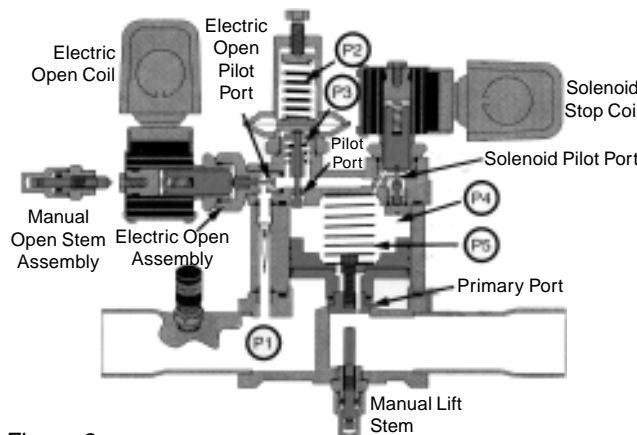

Figure 2
**Defrost Operation - Valve closed (Figure 2)** - When the valve is used with the solenoid stop feature, the operation for gas defrost is as follows: The solenoid stop coil is de-energized, which allows the inlet pressure to enter the chamber on top of the main piston (P4) through the solenoid port and through a drilled passageway independent of the pilot valve. The flow into the chamber is greater than the flow leaving through the orifice in the piston nose piece. This causes pressure (P4) to rise, and combined with the piston spring (P5), tightly closes the valve. The de-